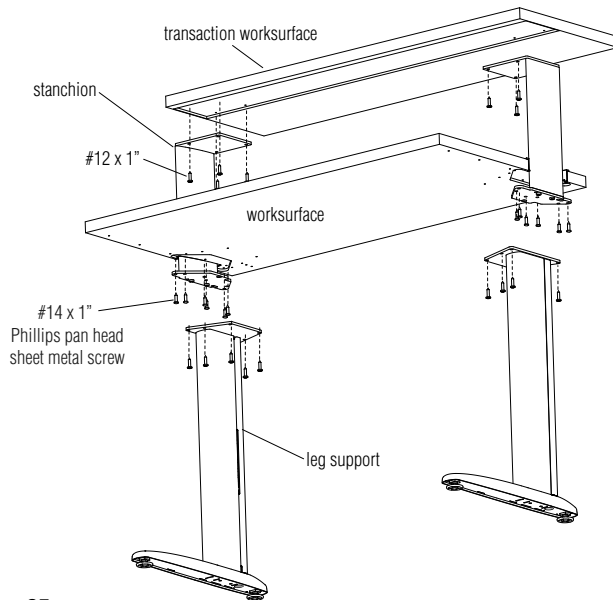

Figure 25
1. Remove appropriate worksurface grommets and covers. Remove the two outside  $\frac{5}{16}$ -18 x 2" short-head bolts from the bolt cluster that secures the worksurface to the leg supports. The center bolt does not require removal and can be loosened approximately  $\frac{1}{8}$ " and left in place. Repeat on other end of worksurface (Figure 25).
2. Place transaction worksurface laminate side down on a soft surface to avoid scratching. Align small holes in transaction worksurface supports with drilled holes near outside of worksurface and secure with two #14 x  $\frac{7}{8}$ " screws per support. Align holes in transaction panel (flanges facing toward inside of desk) with drilled holes in underside of worksurface and secure with three #14 x  $\frac{7}{8}$ " screws per panel (Figure 25).
3. Set transaction worksurface assembly onto desk assembly and hook transaction worksurface support slots onto heads of the  $\frac{5}{16}$ -18 x 2" short-head bolts. Secure with remaining  $\frac{5}{16}$ -18 x 2" short-head bolts and tighten (Figure 25).